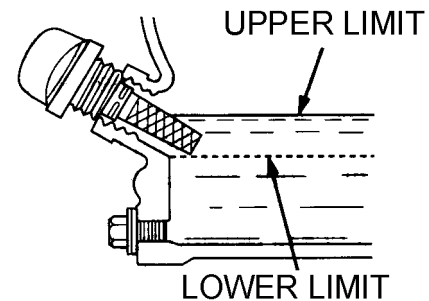

Figure 22. Engine Oil Dipstick (Oil Level)
4. If the oil level is low (Figure 22), fill to the edge of the oil filler hole with the recommended oil type as listed in Table 4. Reference Table 3 for maximum engine oil capacity.